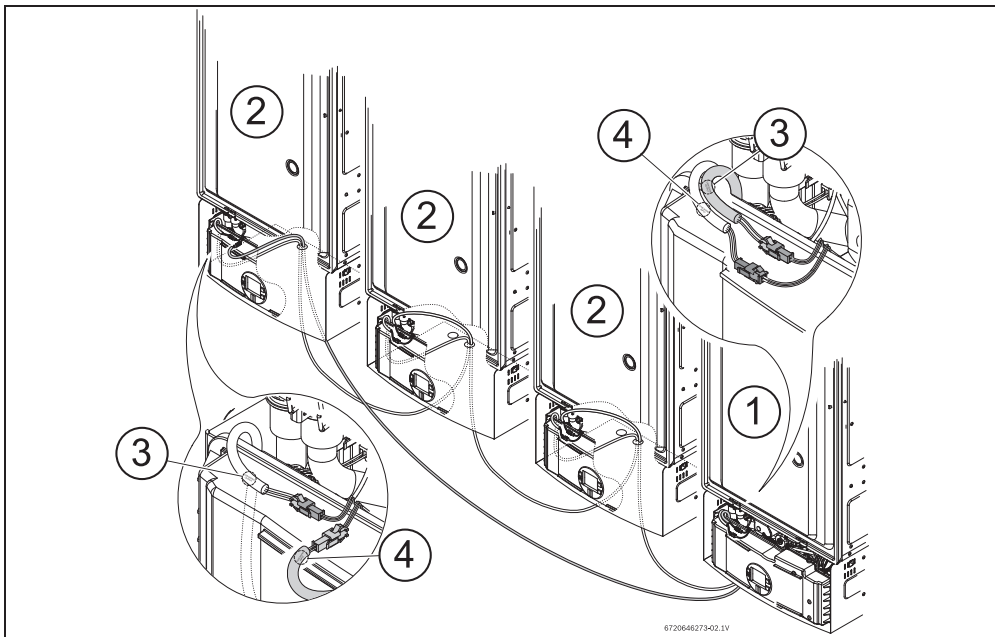

Fig. 2 Example of installation
- ▶ Connect to the 'cascading input' connector of the secondary appliance (Fig. 2).